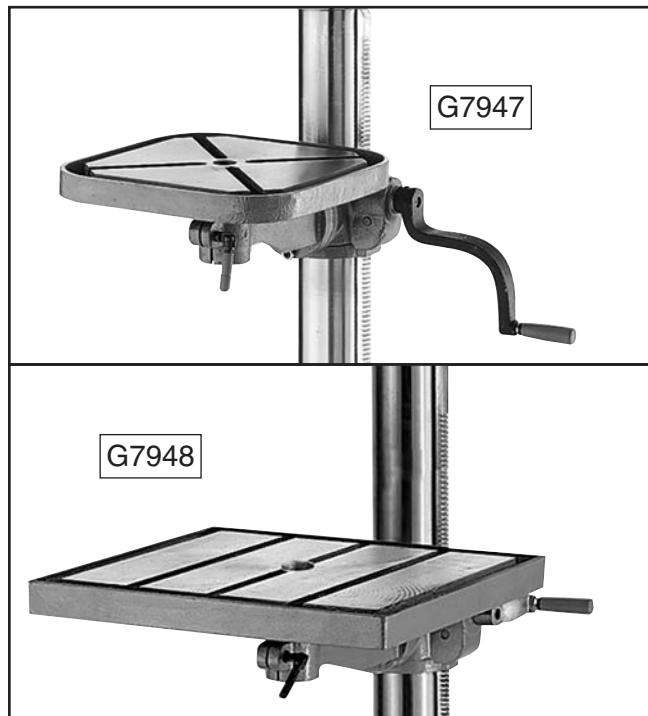

Figure 25. Tables installed.
- 24.** Tighten small locking lever to secure table in table support assembly. The table should now be installed as shown in **Figure 25**.